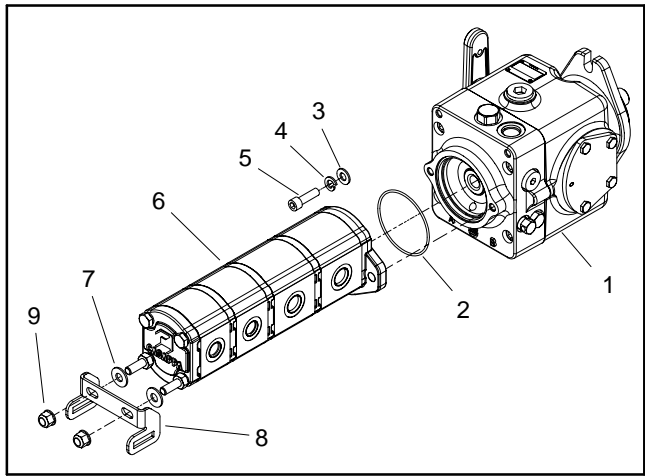

Figure 70
12. Separate traction and gear pumps (Fig. 70):
A. Remove two (2) socket head screws, lock washers and flat washers that secure gear pump to traction pump.
C. If necessary, remove two (2) lock nuts that secure pump support bracket to gear pump. Remove bracket and two (2) flat washers from gear pump.
2. Assemble traction and gear pumps (Fig. 70):
B. Position gear pump to traction pump and secure with two (2) socket head screws, lock washers and flat washers.
C. If pump support bracket was removed from gear pump, fit flat washers and bracket to gear pump and secure with two (2) lock nuts.